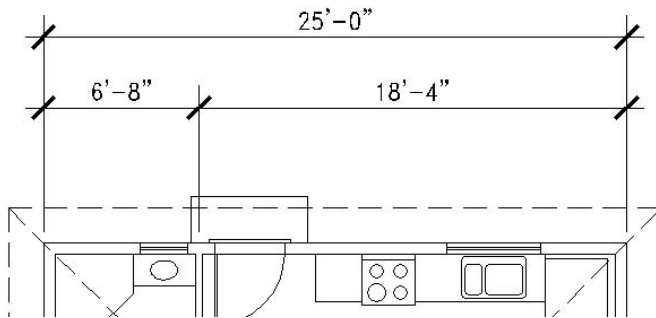

FIGURE 11.17: The completion of the overall dimension with the Baseline command
4. Pick the upper-right corner of the walls, and then press Esc to cancel the Baseline command. The overall dimension is drawn above the first two dimensions (see Figure 11.17). (The Baseline command will keep running until you cancel it, just like the Continue command.)